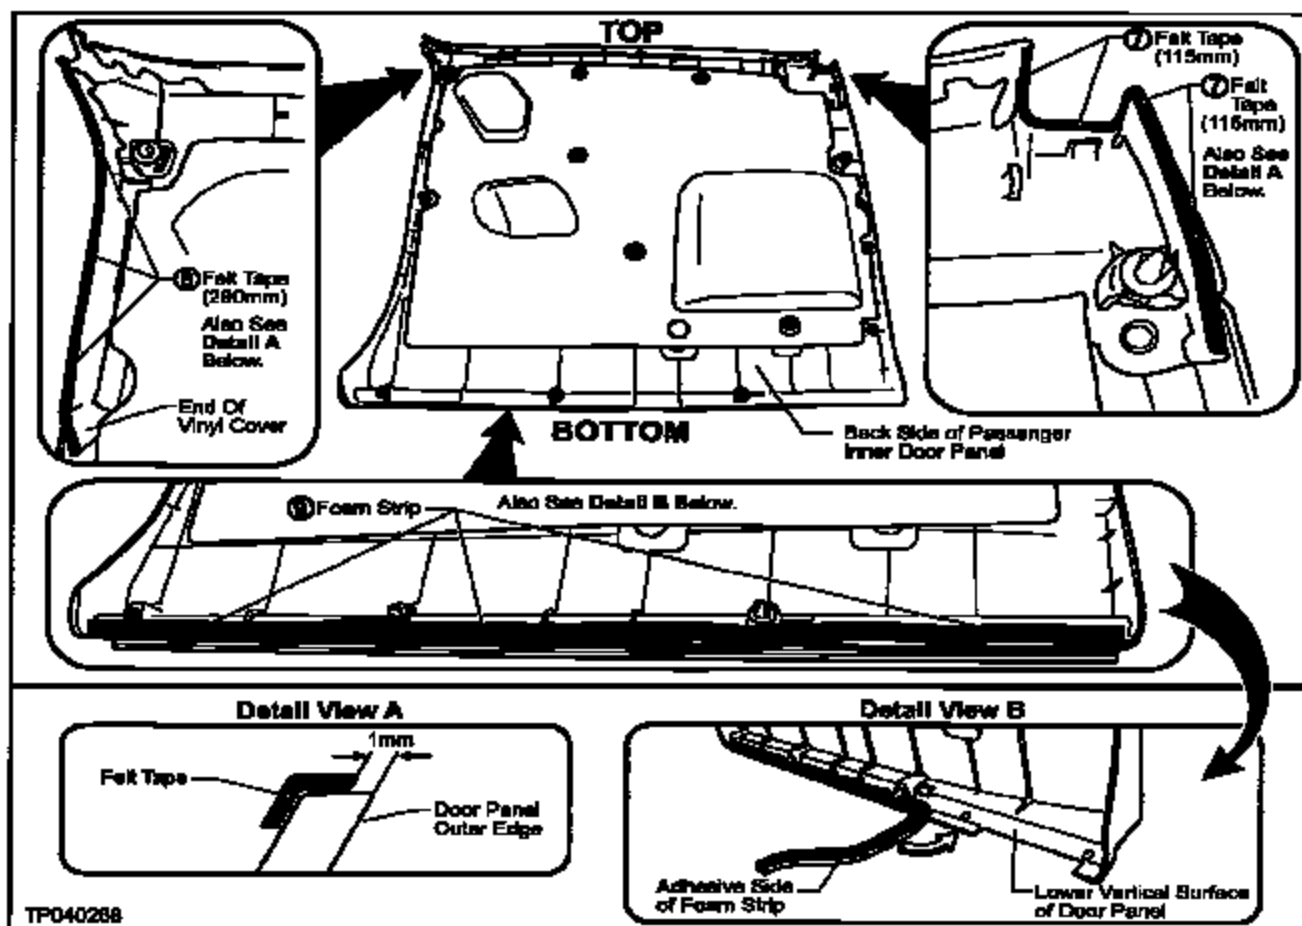

Figure J25
29. Install Felt Tape (#7 and #8 in Figure J1) to the upper front and upper rear sections of the Door Panel (see Figure J25).
- Make sure the Felt Tape is placed 1mm from the outer edge of the Door Panel (see **Detail View A** in Figure J25).
30. Install the Foam Strip (#9 in Figure J1) along the lower edge of the Door Panel (see Figure J25).
- Make sure the adhesive-side of the Foam Strip is applied to the lower vertical surface of the Door Panel (see **Detail View B** in Figure J25).